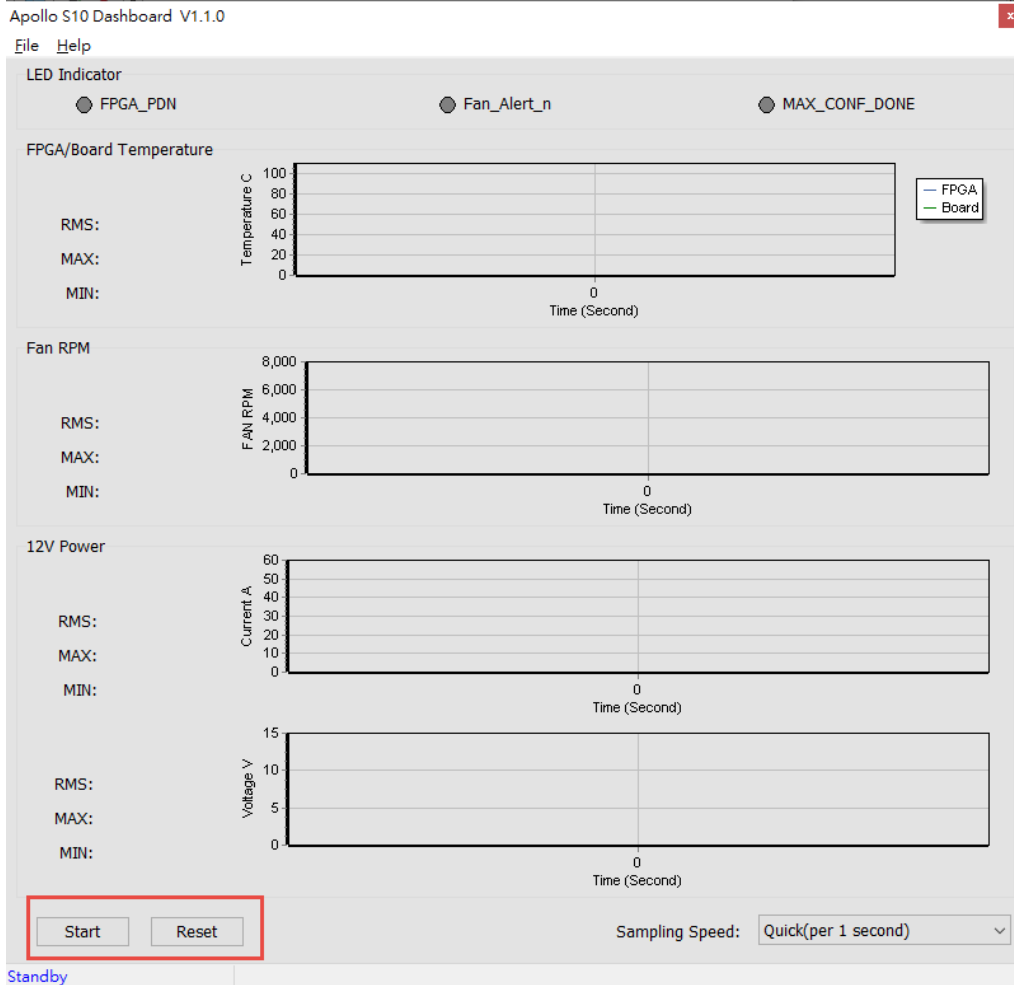

Figure 4-7 Start and Reset button
- **Start/Stop:** As shown in **Figure 4-7**, there is a Start button at the bottom-left of the GUI window. Click it to run the program (Start will change to Stop), it will show the Apollo S10 board status. Users can press Stop button to stop the status data transmission and display.